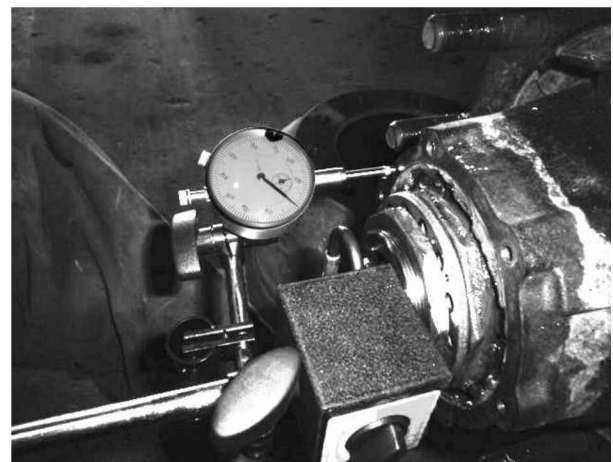

Figure 4: Checking end play
4. **Attach** dial indicator (Table 2) with magnetic base to flat surface at end of spindle (Figure 4).